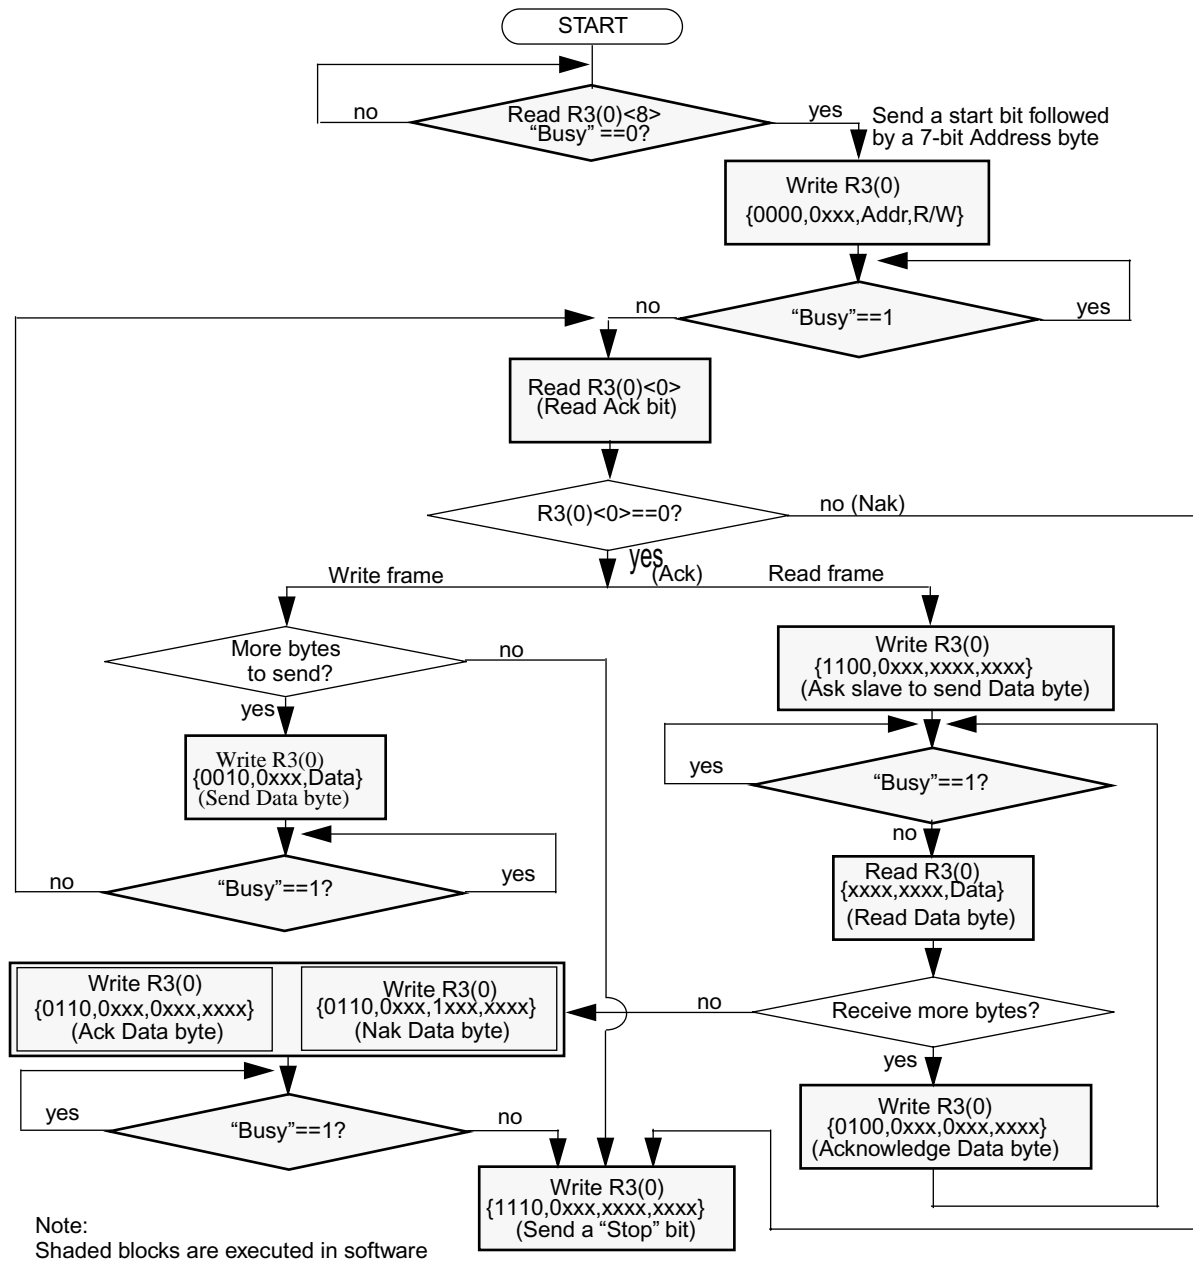

Figure 16 Master Mode
External register R3(0) controls the I²C. Table 9 lists the Master I²C bus interface commands. Table 10 lists the Slave I²C bus interface commands. Figure 16 and Figure 17 are flow charts of the Master and Slave modes.